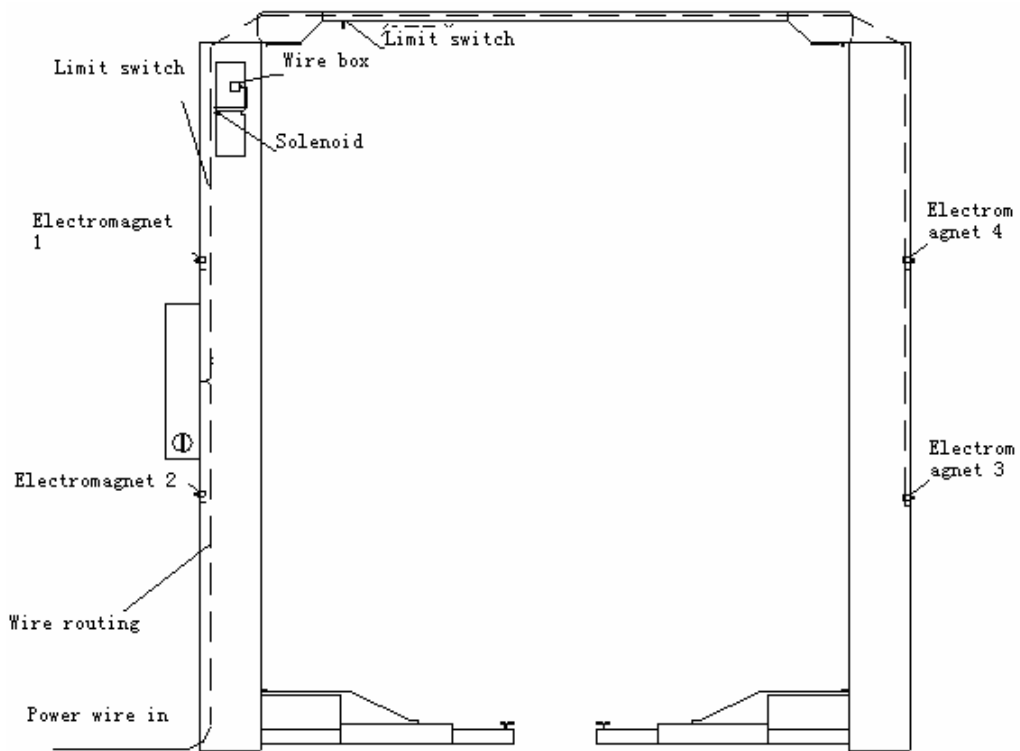

Fig 13b
- TLT240SCA、TLT235SCA (U) models are shown in Fig13b.